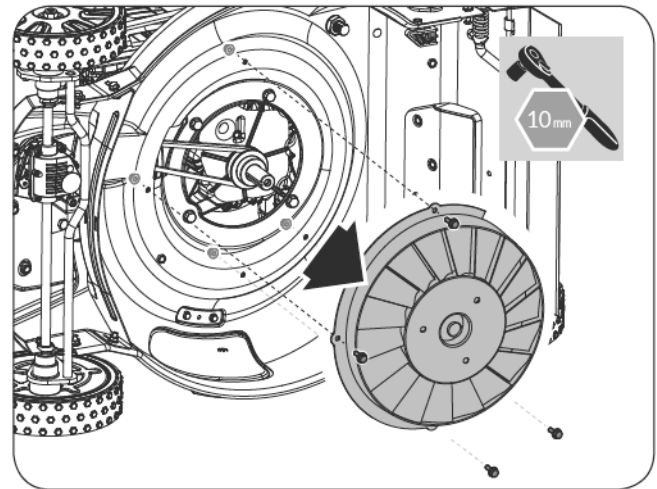

Figure 24
2. Remove the four M6x12 bolts fixing the engine pulley cover and put the engine pulley cover aside. (See **Figure 24**)